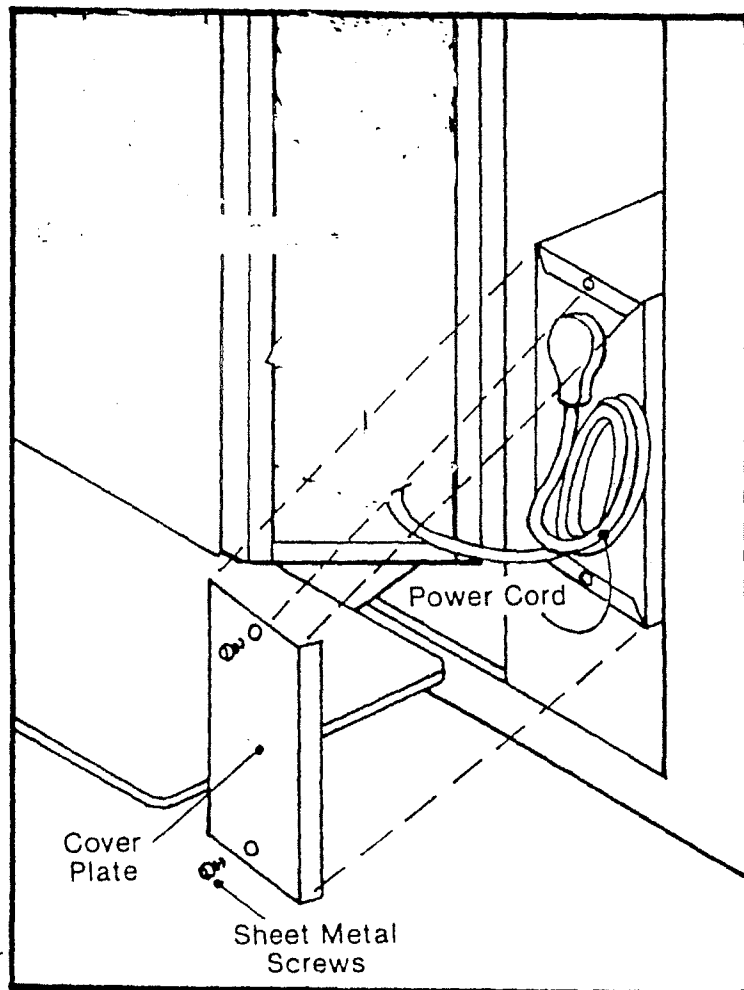

FIGURE 10
I. Remove cover plate from Cabinet exposing receptacle. Roll up power cord so it will fit inside of cover box. Plug in power cord in receptacle. Replace cover plate. (See Figure 10).